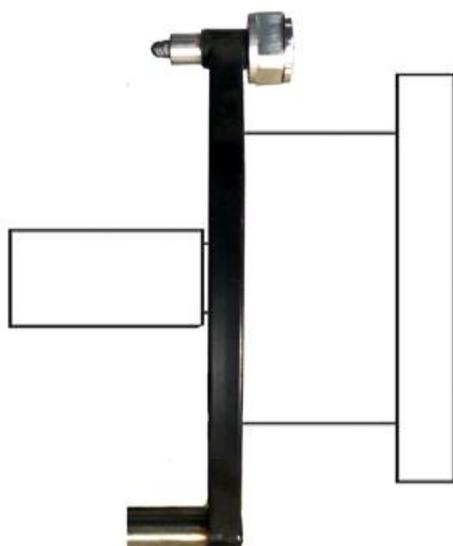
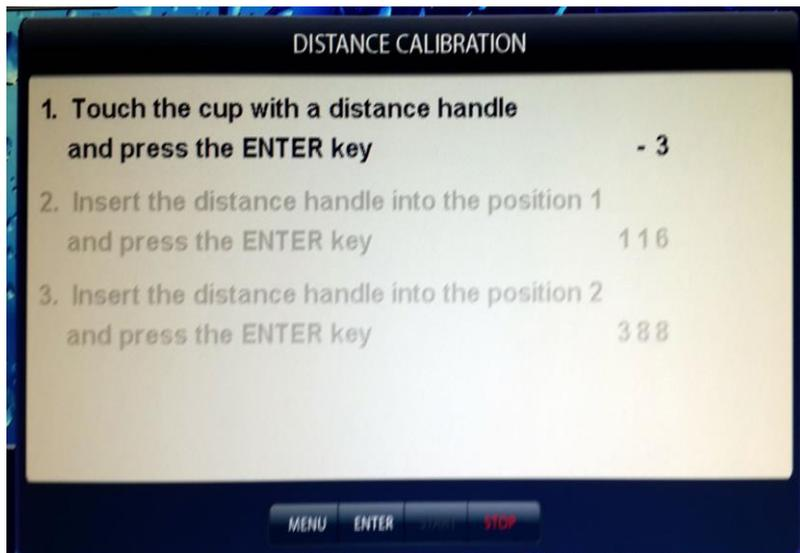

fig. 18.1
fig. 18.3
19.1.1. Calibration of the distance measuring channel. To evaluate the inaccuracies in measurement of the distance, pull out the gauge and press the side surface of its handle against the back end of the shaft flange, as shown on the fig. 18.1. The screen for input of the dimensions will display the value for the distance (refer to fig. 10.2). If the distance is not equal to  $135 \pm 5$  mm, the distance input device needs to be calibrated.
Press the button «MENU». In the window MENU select the option «Calibration» by pressing corresponding button in the top row of the keyboard. The window «CALIBRATION» will open. Select option 2 «Distance calibration» by pressing button 2 in the top row of the keyboard. This will open the window «DISTANCE CALIBRATION» (fig. 18.3). Pull out the gauge and press the side surface of its handle against the back end of the shaft flange, as shown on the fig. 18.1 and press the button «ENTER». The item 2 «Insert the distance handle into the position 1 and press ENTER button» in the window «DISTANCE CALIBRATION» will be highlighted.